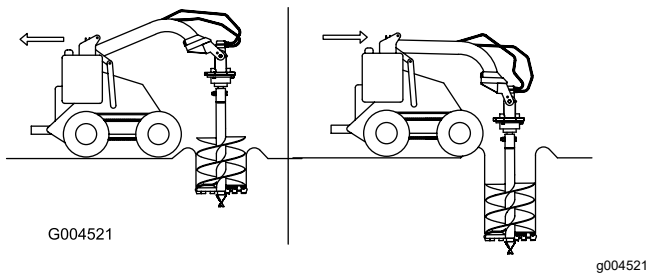

Figure 10
- Lower the auger slowly as the soil is loosened. As you dig deeper, move the traction unit backward or forward as required to keep the auger vertical (Figure 10).